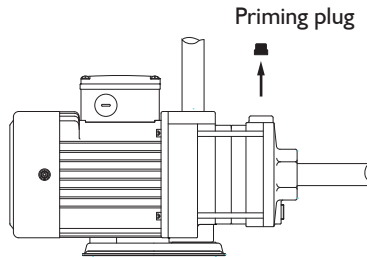

Fig. 1
4.3.1.2 Remove the priming plug, fig. 1.